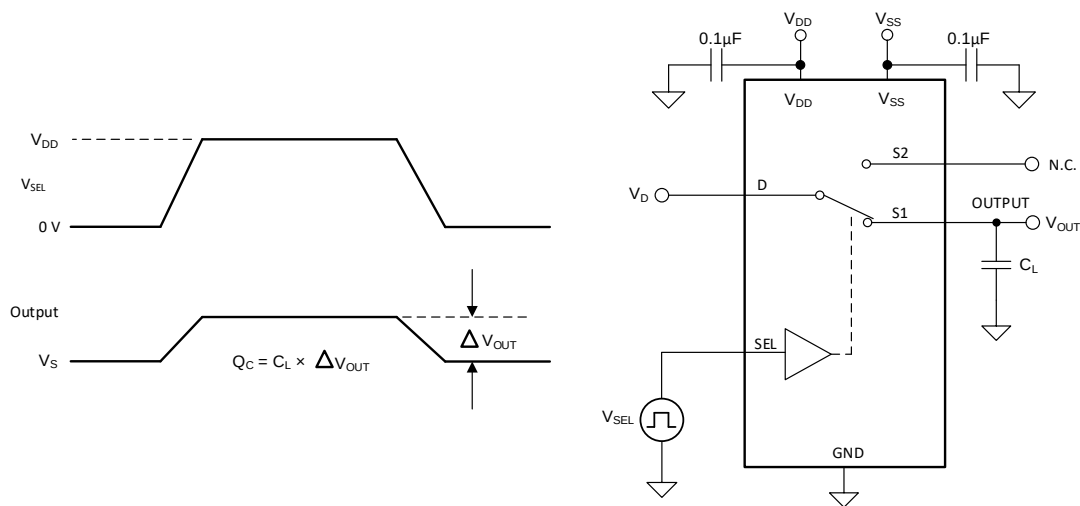

图 12. Charge-Injection Measurement Setup
The TMUX1219 has a transmission-gate topology. Any mismatch in capacitance between the NMOS and PMOS transistors results in a charge injected into the source or drain of the device during the falling or rising edge of the gate signal. The amount of charge injected into the source or drain of the device is known as charge injection, and is denoted by the symbol  $Q_C$ . 图 12 shows the setup used to measure charge injection from Drain (D) to Source (Sx).